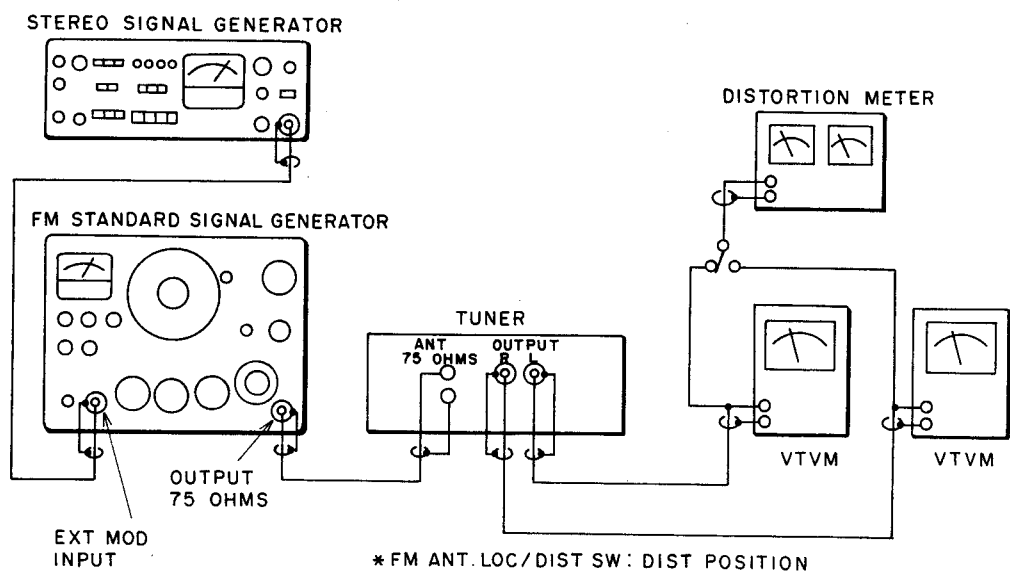

Fig. 7 Instrument Connections (FM)
3. FM SECTION ADJUSTMENT (Refer to Figs. 7, 9, 10 and 11)